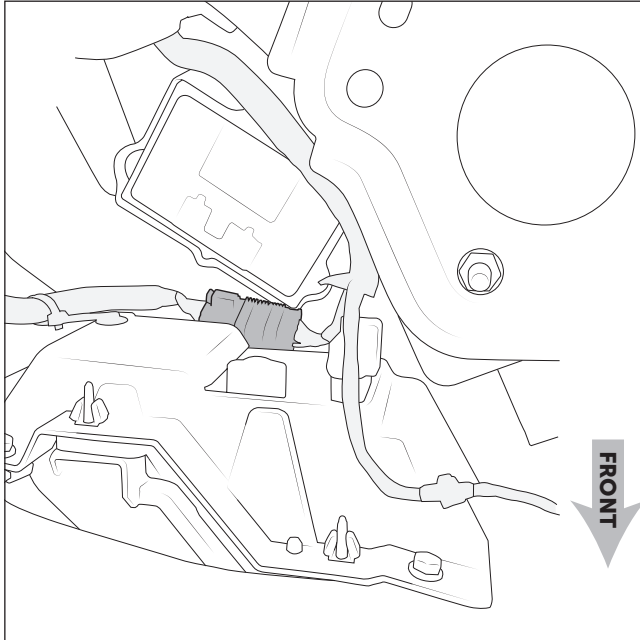

Figure 1
1. Disconnect the bumper wiring harness. The connector is located between the driver's side headlight and the fog light assemblies (fig. 1).